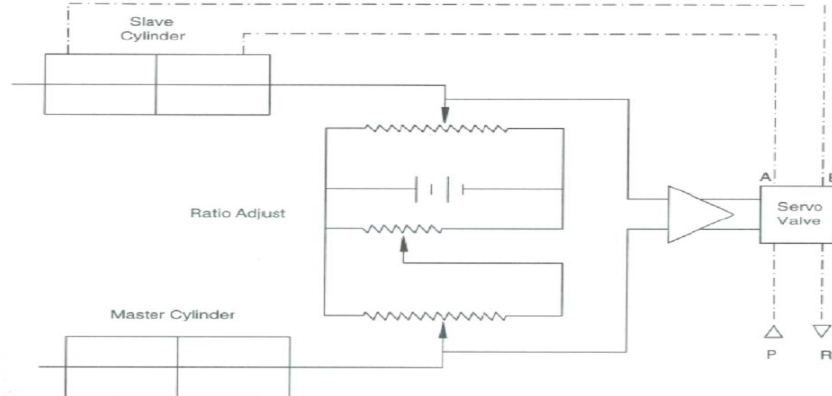

FIGURE 11.39
- Consider a system where one cylinder is “slaved” to another cylinder. (Fig 11.39)